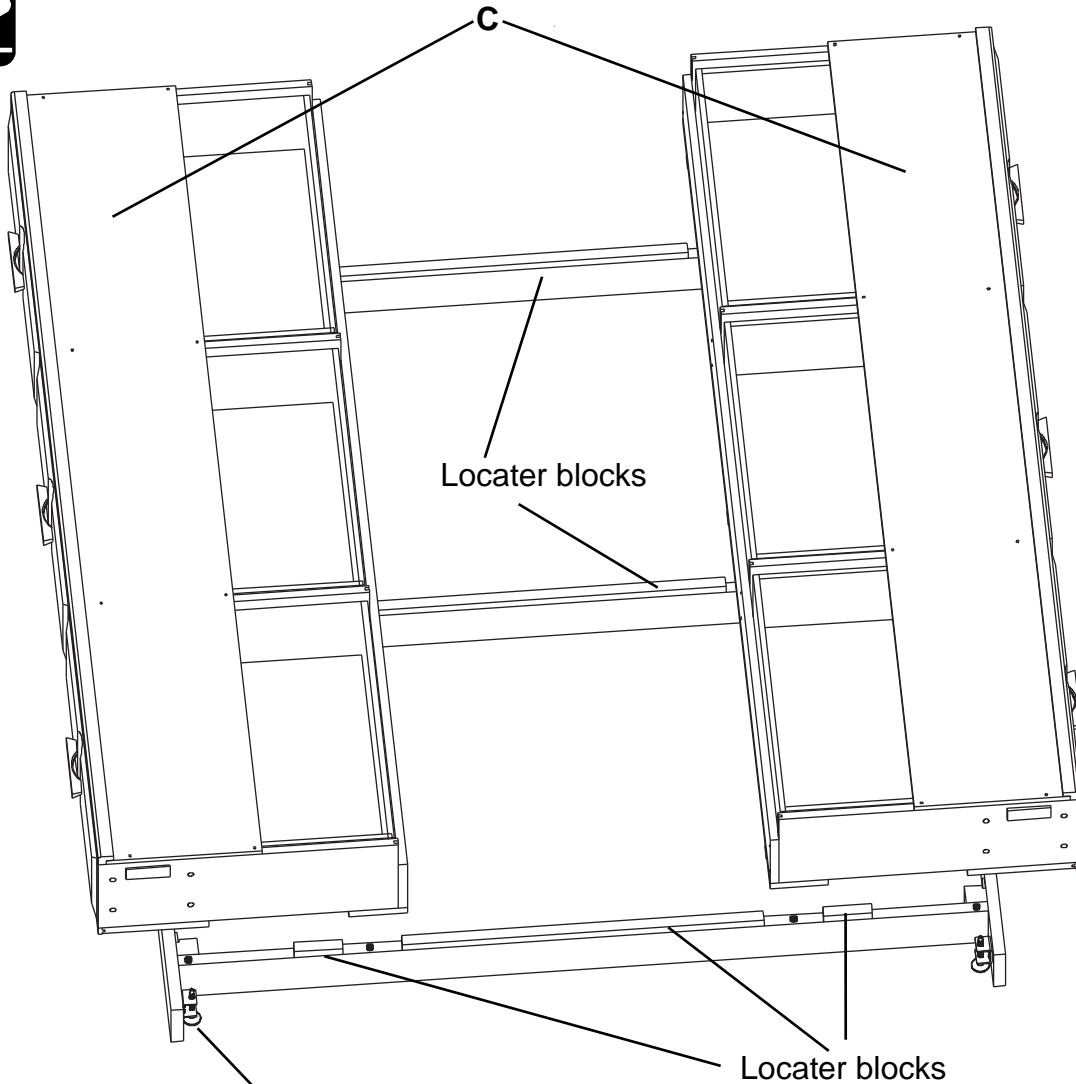

Fig. 4
- Place each pedestal on top of the base kit against the side of and between the locator blocks of the Base Kit. See Figure 4.